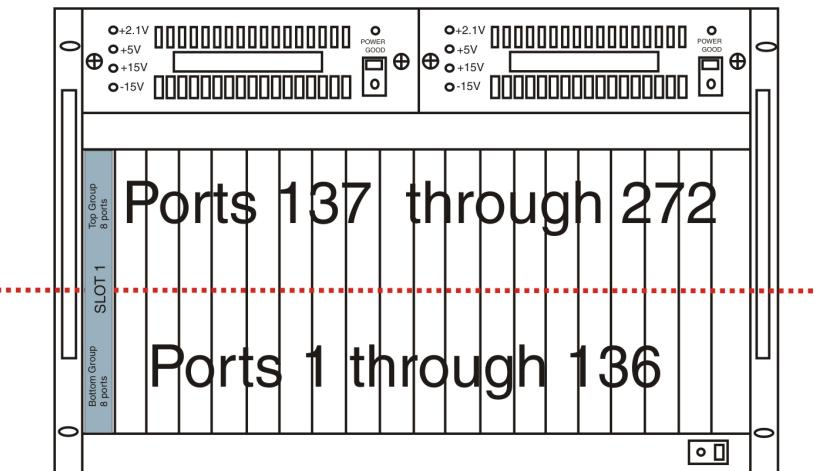

FIGURE 5. ADAM Frame with AIO-16 cards only and the port numbering scheme.
To be backwards compatible with the AIO-8 cards, the 16 channels had to be divided into two (2) separate groups of eight (8) channels per card (a bottom group and a top group). For example, if you have an AIO-16 card in slot one of an ADAM frame, the bottom group of eight (8) channels have ports 1-8 assigned to them, while the top group of eight (8) channels have ports 137-144 assigned to them, see Figure 5 .